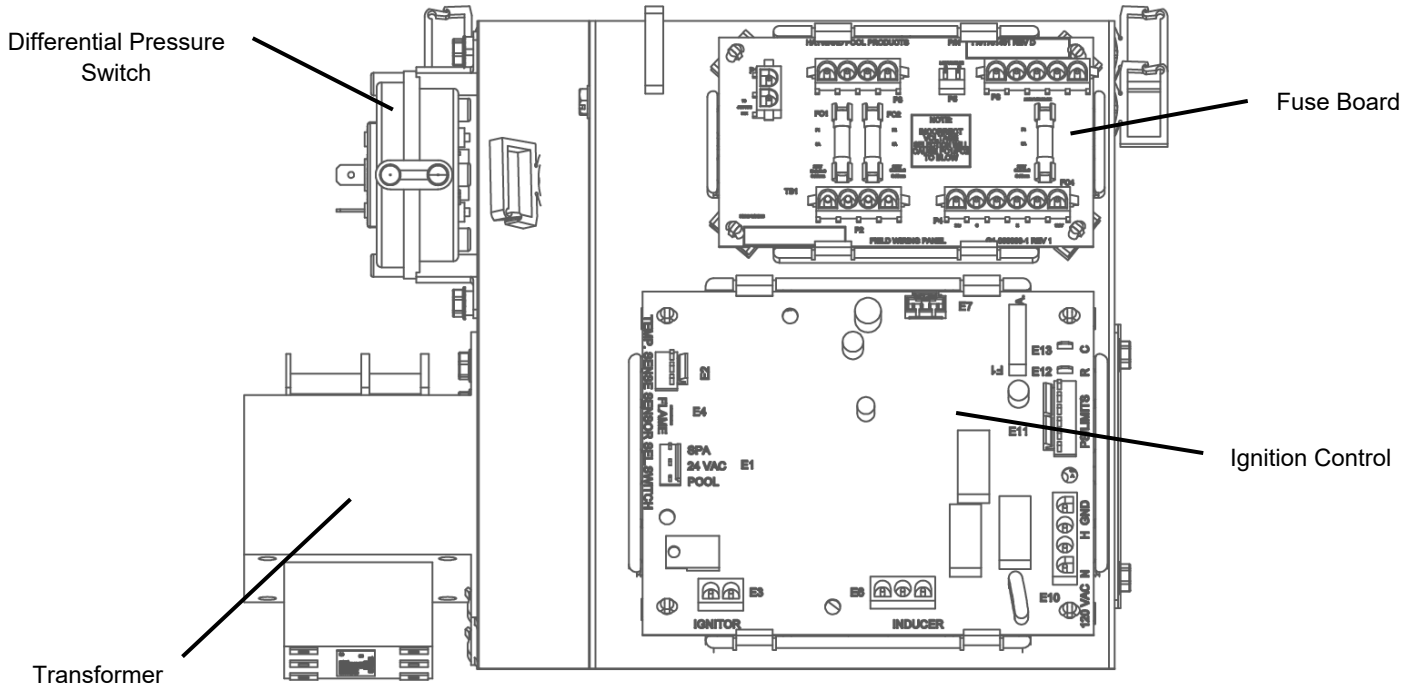

Figure 21: Header Assembly Components
1. Use the mode button to change from “STANDBY” to either “SPA” or “POOL” (see Figure 21). There may be up to a 10- second delay before the heater starts operating. The control performs an internal self-test and then verifies that the blower vacuum switch contacts are open before energizing the blower.